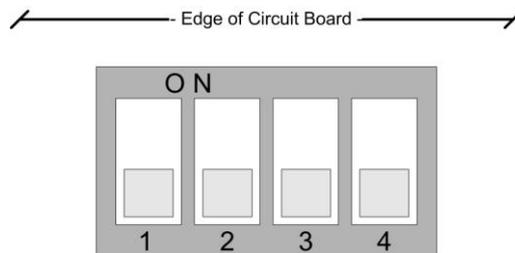

Figure 28: States of DIP Switches DSW1, DSW2, DSW3, and DSW4
| Quantity of AfiFree155i Bodies | Quantity of AfiFree155i Bodies | Valve Wire Connection | DSW4 Dipswitch Positions (Figure 28) |
* Set the DIP switch as shown in Figure 28.